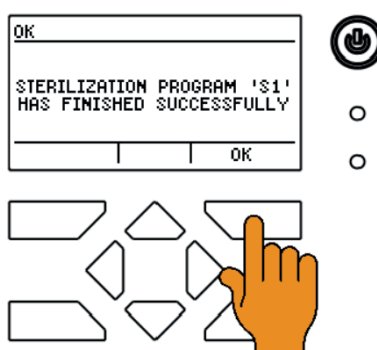

Fig. 6
5. Press OK at the unloading side after successful termination of the program (Fig. 6).